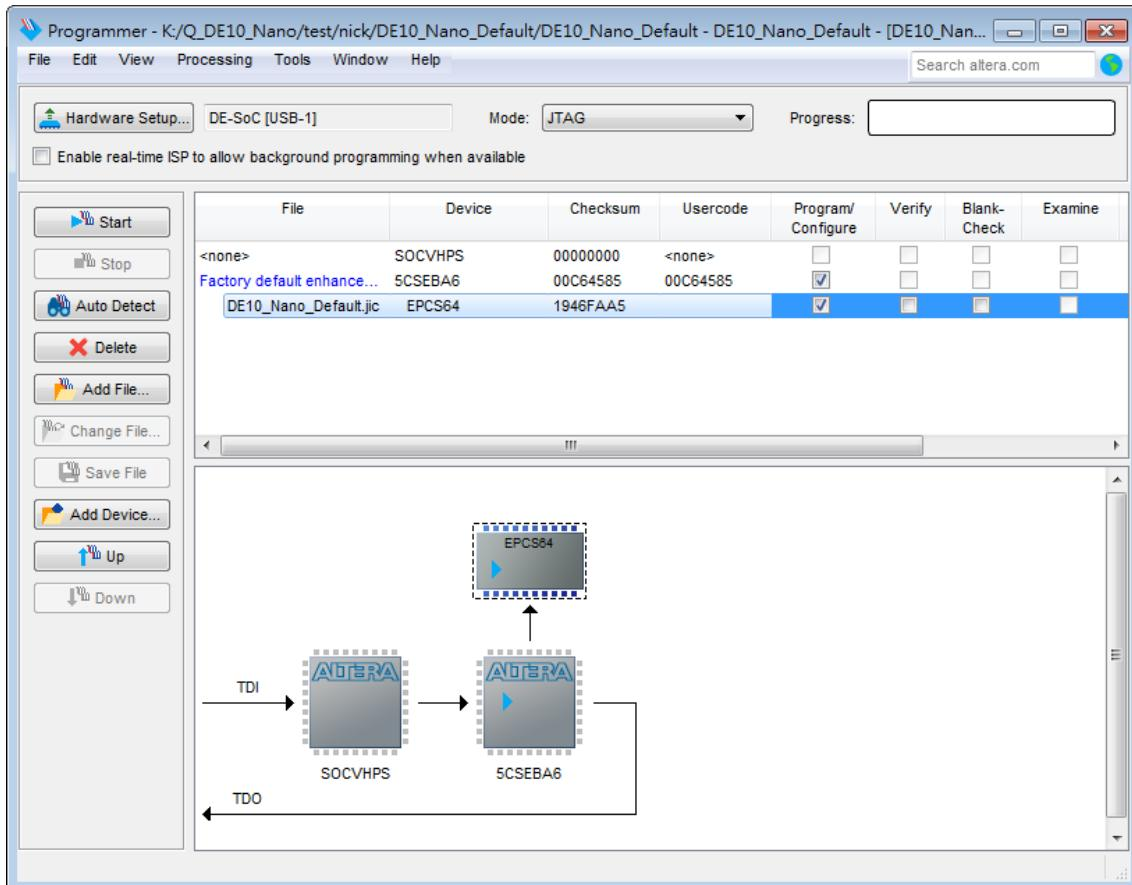

Figure 8-8 Quartus II programmer window with one .jic file
5. Program the EPCS device by clicking the corresponding **Program/Configure** box. A factory default SFL image will be loaded, as shown in Figure 8-8.